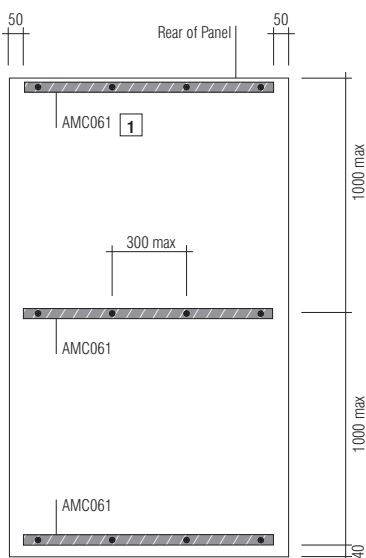

Fig. 7
- 2 Measure 50mm in from either vertical edge of the panel and mark with a continuous line. Cut AMC061 panel rails to suit. (refer fig.7)